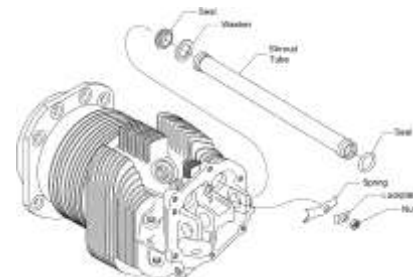
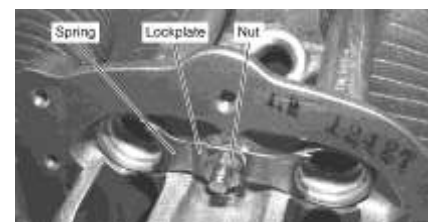

Figure 43
Figure 44
- (5) On each shroud tube, assemble the other shroud tube seal over the outer end of the shroud tube (Figure 43).
- (6) Insert each shroud tube through the hole in the rocker box and seat the end firmly into the crankcase.
- (7) Install the shroud tube spring, new lockplate, and nut (Figure 44). Torque the nut to 96 in.-lb. (11 Nm).